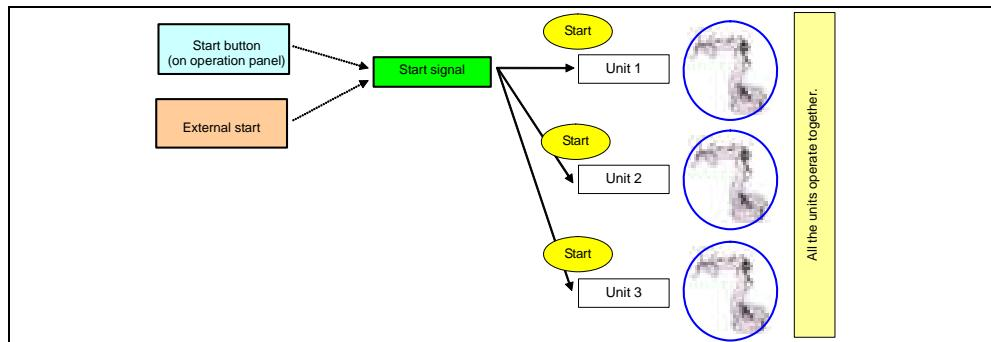

Fig. 1.2.2 Example of simultaneous unit start/shutdown configuration
- All the units can be started up together by a single start signal (Fig. 1.2.2)